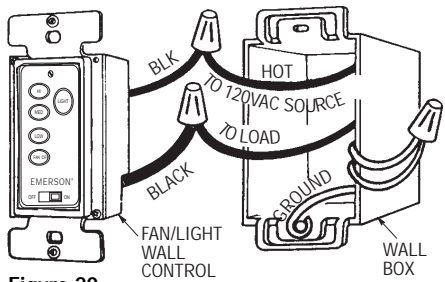

Figure 20
- 4. Connect one black wire of wall control to the “hot” wire. Securely connect wires with wire connectors supplied (Figure 20).